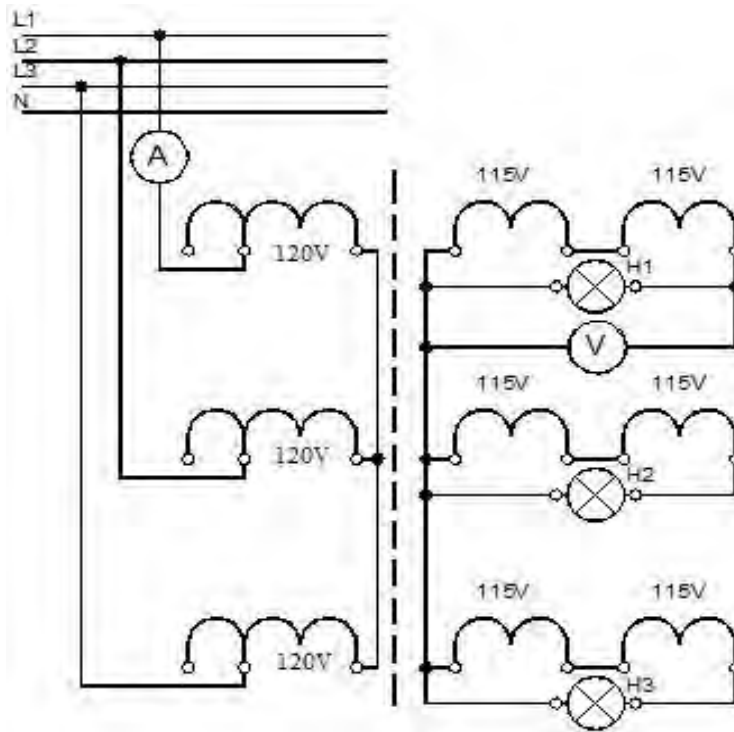

Figure 5:
1. Wire up the circuit in accordance with the set-up and wiring diagram of Figure 5.